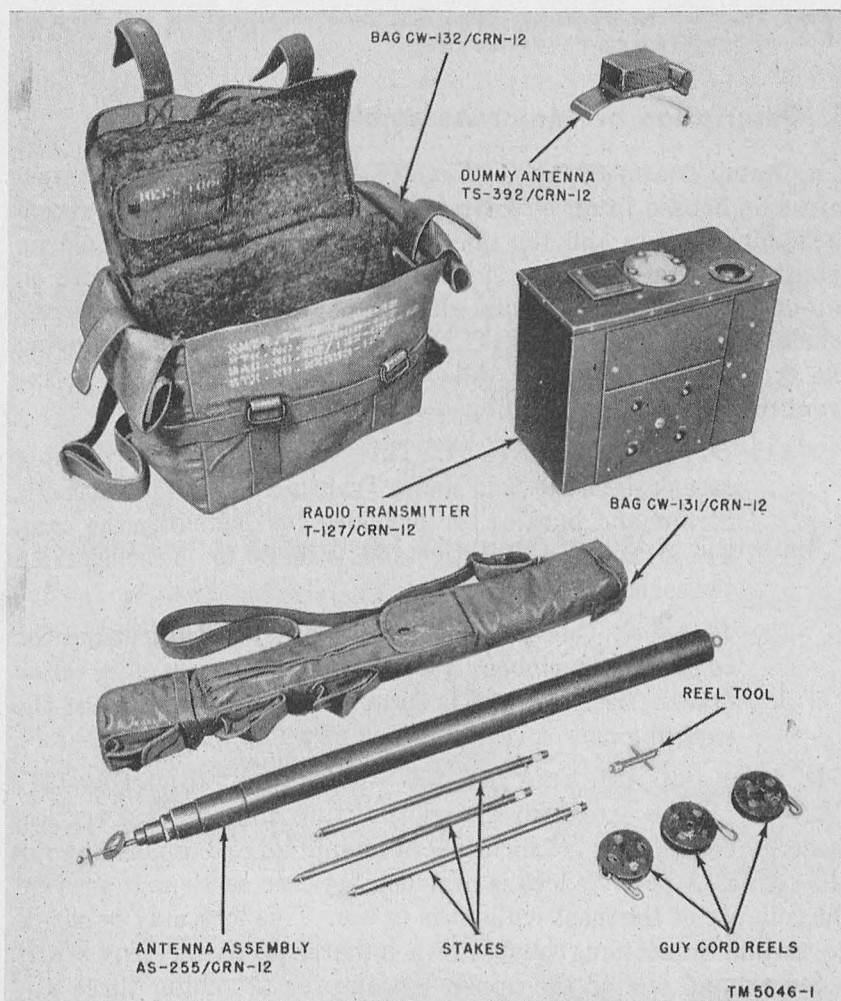
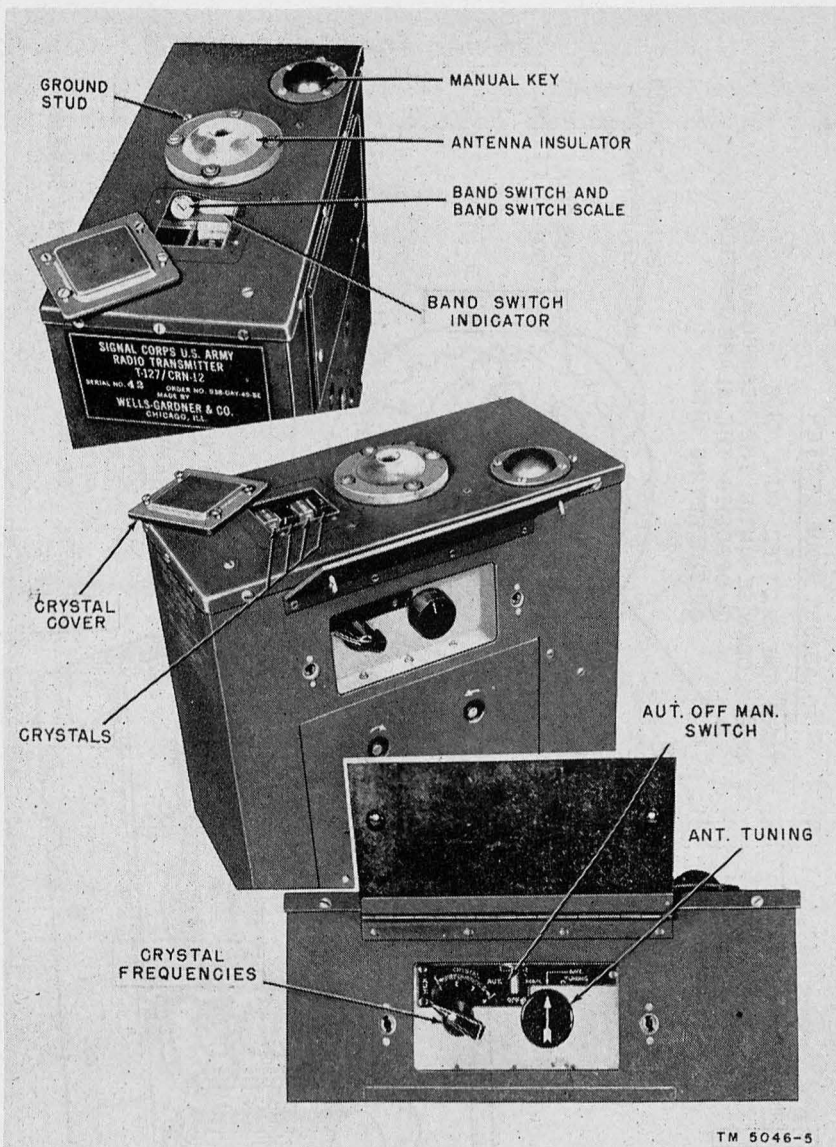

Figure 2. Components of Homing Beacon AN/CRN-12.
Figure 6. Location of crystals and controls.
a. RADIO TRANSMITTER T-127/CRN-12 (fig. 2). The radio transmitter is housed in an olive-drab metal case. The antenna receptacle subassembly and the manual keying switch are located on top of this case. The cover to the crystal compartment is also on top of the case. Beneath and slightly to the side of the antenna insulator is the BAND SWITCH; it can be reached by removing the crystal cover (fig. 6). All other controls are located in the front of the case under a hinged cover.
- (1) *Bag CW-132/CRN-12.* This bag is a canvas carrying case designed to hold Radio Transmitter T-127/CRN-12. Straps and buckles are provided for fastening the case. The strap length is adjustable from 30 to 56 inches from the corner of the case.
- (2) *Reel tool.* One end of the reel tool is used to rewind the counterpoise ribbon; the other end is used as a screw driver. The reel tool is secured to the under side of the carrying case cover by means of a flap marked *reel tool*.
*Note.* Before connecting the batteries to the transmitter, make sure that the AUT.-OFF-MAN. switch (fig. 6) is in the OFF position.
b. **INSTALLATION OF CRYSTALS.** Unscrew the four screws holding the crystal cover located next to the antenna insulator on top of the set and remove the cover (fig. 6). Note that the crystal sockets are numbered 1 through 4 to correspond to the numbers on the **CRYSTAL FREQUENCIES** switch on the control panel. Insert the crystals in the order of increasing frequency, position 1 being the lowest and position 4 the highest frequency. Note, too, that the crystal sockets are of the dual type, making it necessary to install the crystals so that their cover plates face in opposite directions. Disregard the words **TRAN** and **REC** on the crystal holders and sockets. After the new crystals have been installed, turn the **BAND SWITCH** to the position that includes the frequency range of the inserted crystals. Replace the crystal cover and fasten it securely.
(fig. 6)